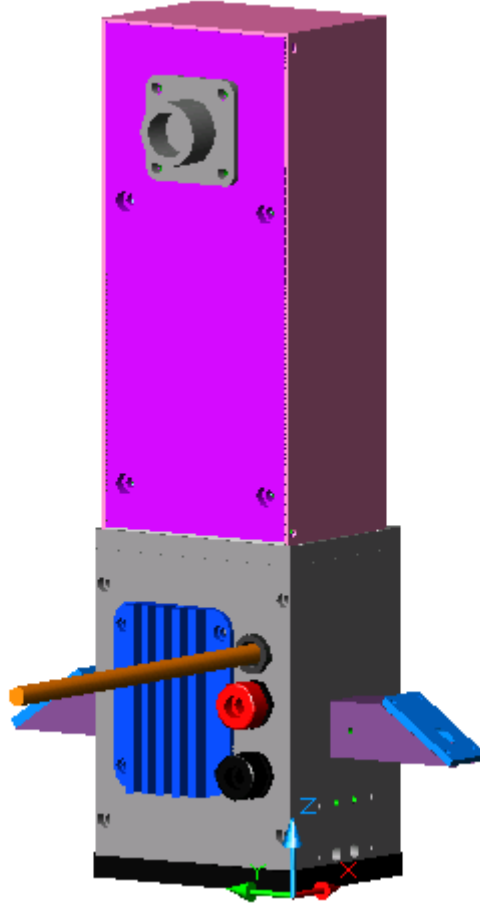

Figure 46. Fully assembled modulator.
**STEP 26:** Attach each Brewster mount to a tube on the chassis (see figure 46). Note that each mount has four available holes. Only two holes are needed, provided that they are perpendicular to each other. Use whichever holes are most convenient. The mounting screws are 1/4" and fit into the large grooves on the tubes.